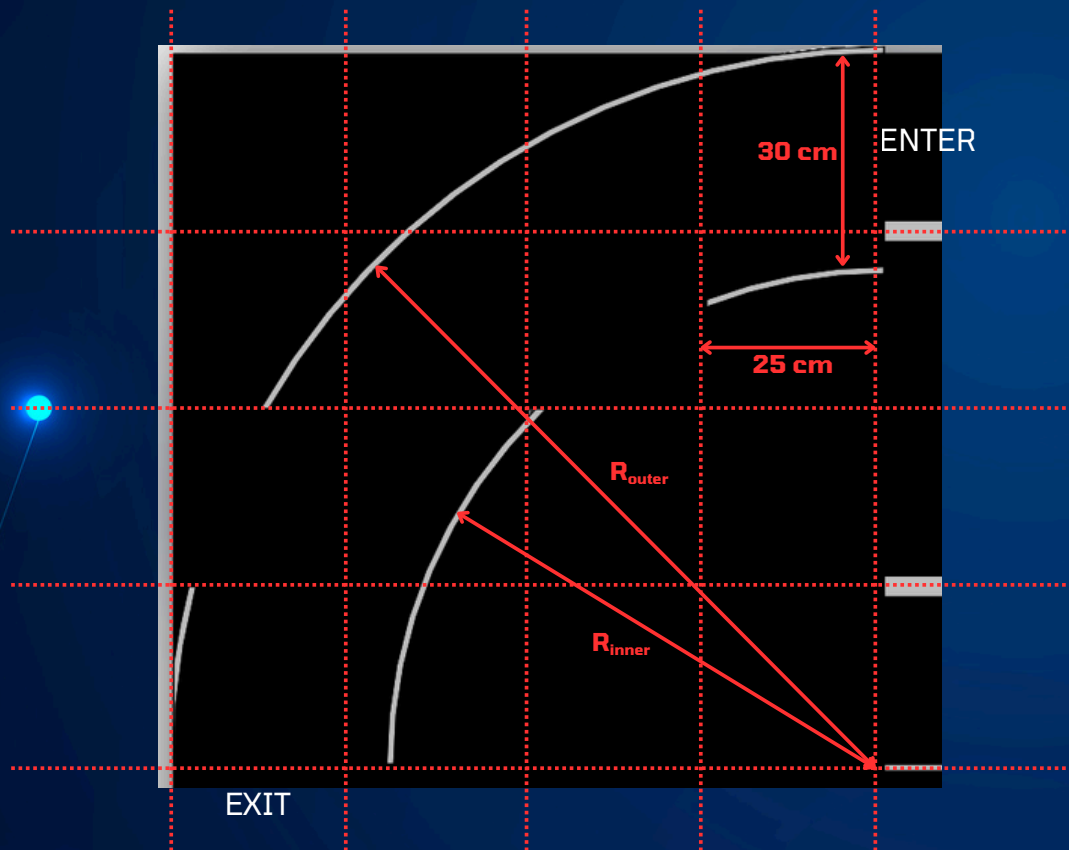

Fig. 5: 2D overview of subtask #02
- All dimensions are aligned with a 25 cm x 25 cm dotted grid, as illustrated in Figure 5.